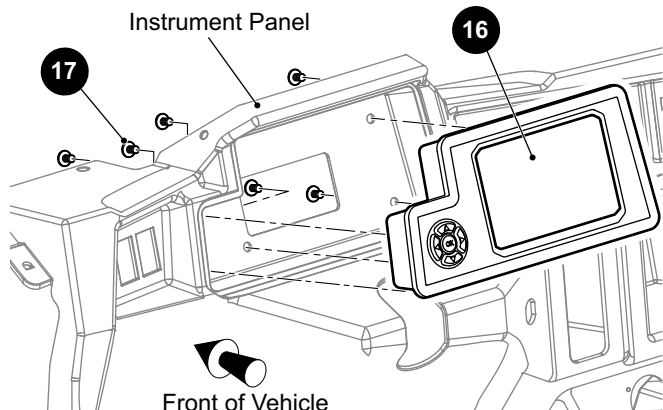

Fig. 5 Information Display
1. Disconnect the harness from the back of the information display (16).
2. Remove screws (17) that secure the information display to the instrument panel (Ref. Fig. 5).